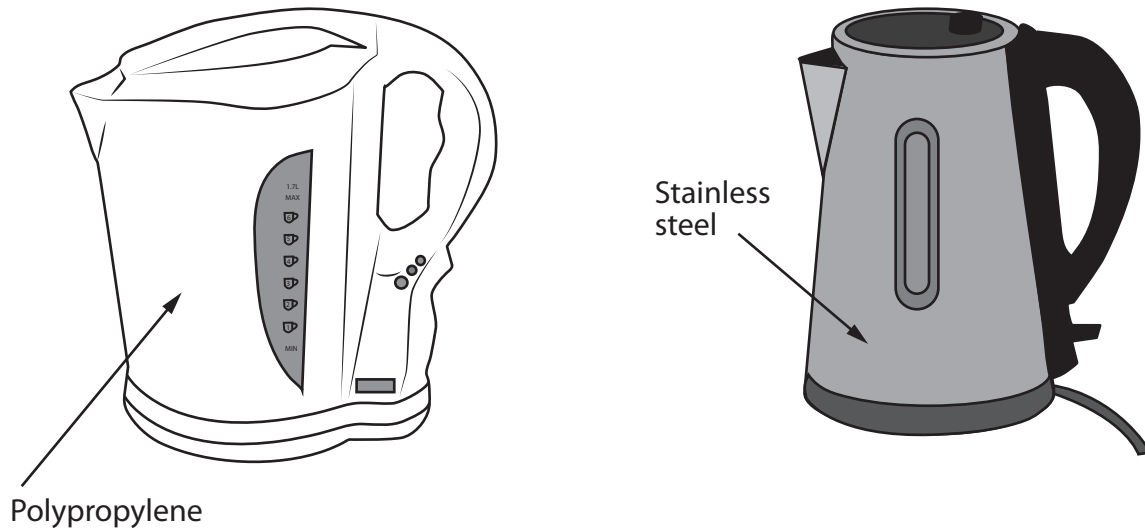

Figure 6
*(b) Figure 6 shows two mass-produced kettles that have bodies made from different materials.